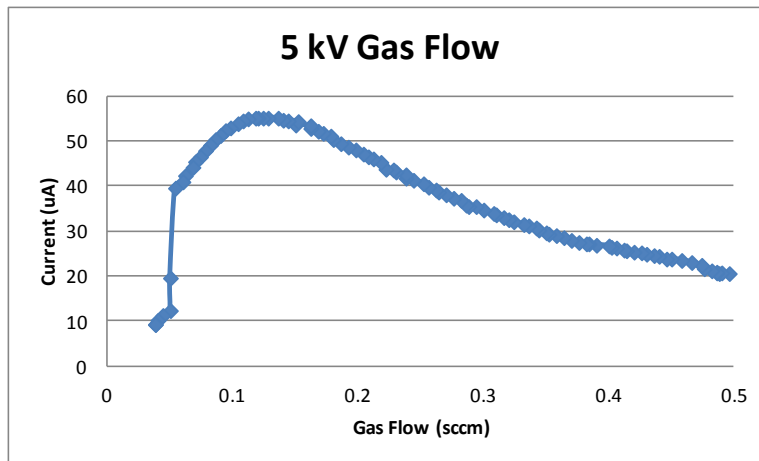

Figure 3-66 Operating characteristics of the PIG.
Note that as guns warm up, the beam current can drift. The guns should be warmed up for 10-20 minutes before setting the gas flow manually. The optimum gas flow changes with accelerating voltage, and it is necessary to adjust the gas flow whenever the accelerating voltage is changed. The curve in Figure 3-66 shifts to the right and increases in height as a gun warms up. If the curve shifts so that the operating point is far to the left of the peak, then it can be in an unstable region of the curve or the current may drop to an unusable level.
- 2. On the Etch/Coat Options page, select Manual for the Gas Mode (see Figure 3-66).**
7. Adjust the gas flow to each gun individually. Find the gas flow corresponding to the peak Faraday cup current. A typical curve relating gas flow to ion current is shown in Figure 3-66. The operating point indicated has been chosen because it gives the most focused beam and the highest milling rate.